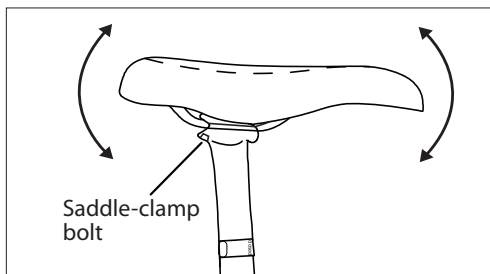

Fig. 30: Saddle bolts and adjustments
1. Decrease the tightness of the saddle-clamp bolt (Fig. 30) until the